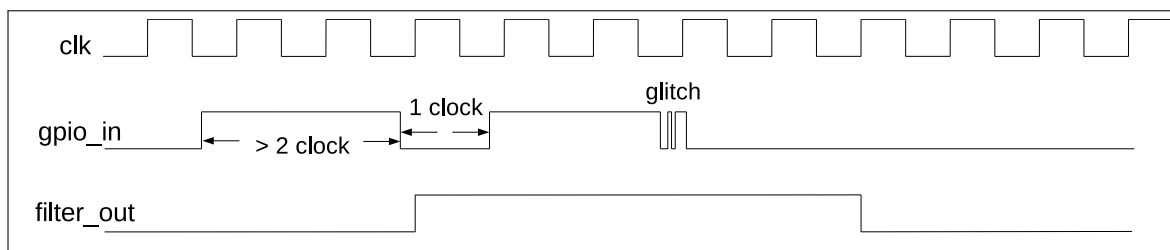

Figure 5.4-2. Filter Timing of GPIO Input Signals
2. Optionally enable the filter for pin input signals by setting `IO_MUX_GPIO n _FILTER_EN`. Only the signals with a valid width of more than two clock cycles can be sampled, see Figure 5.4-2.